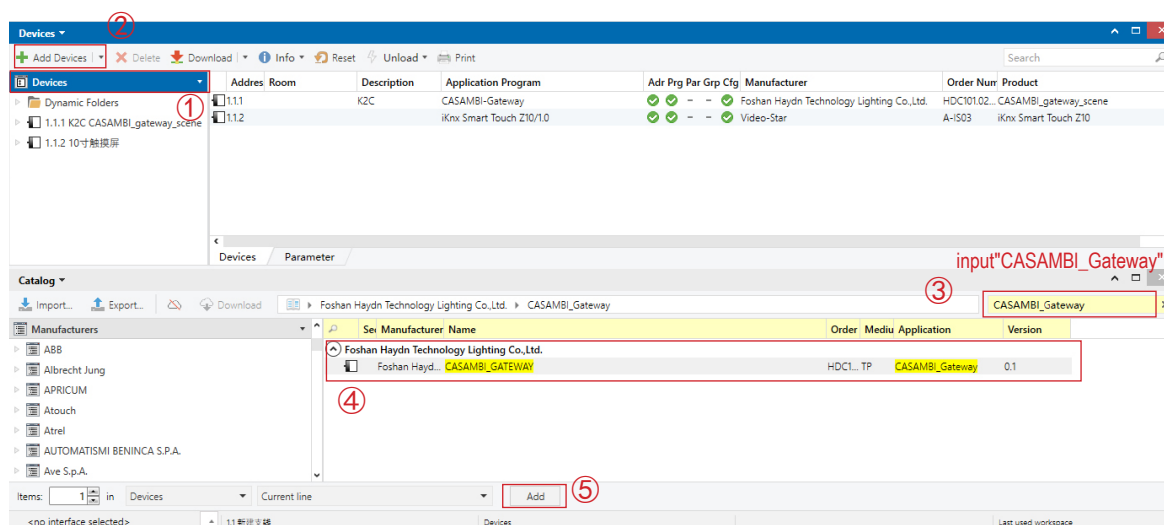
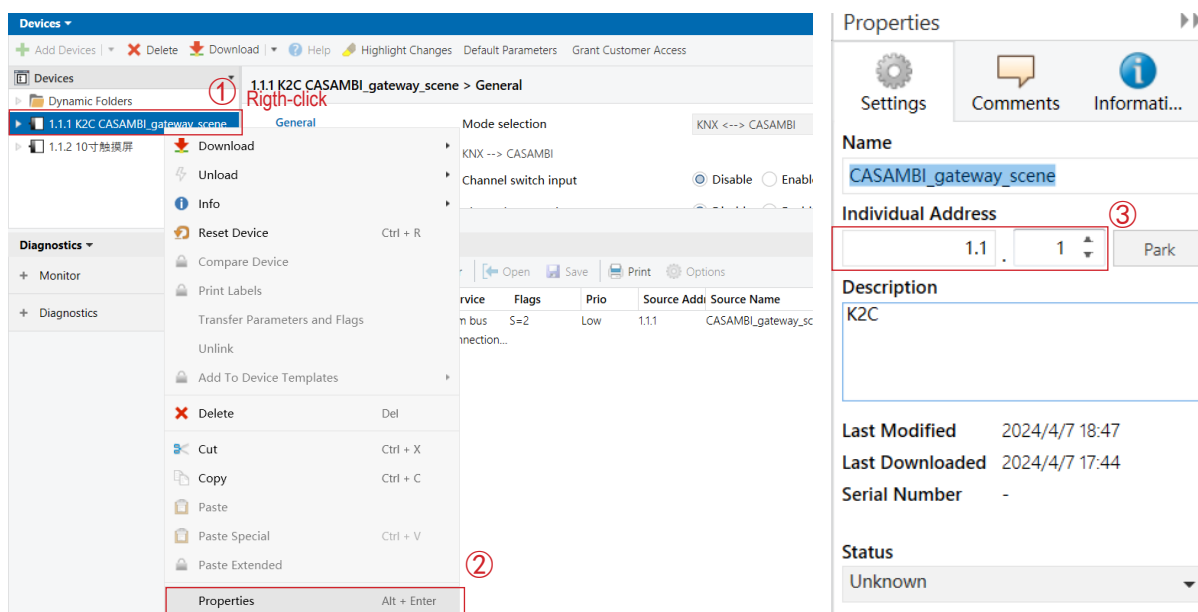

Figure 6
Figure 7
**1 Add "VBU-K2C-W-BI" device to the project (as Figure 6 ) and assign physical address for it (as Figure 7)**
After add "VBU-K2C-W-BI" device to the project, ETS will assign individual address for it automatically. If you want to change it's individual address, set individual address for it as Figure 7.